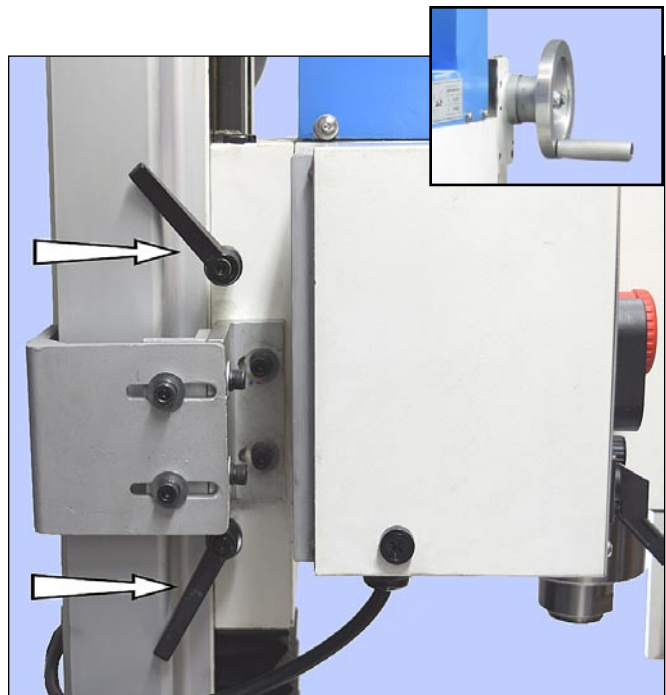

Figure 3-6 Z-axis locks
The Z-axis crank, Figure 3-6 inset, is at the top right of the column. If the mill has a 3-axis DRO the headstock position is displayed at all times. If not, the headstock can be positioned approximately by reference to a 12” scale on the column. For more precise positioning the crank hub has a graduated dial with 0.001” divisions (be aware of backlash in the bevel gears controlling the Z-axis leadscrew, and also in the leadscrew nut).
For milling operations calling for precise, repeatable control of tool depth, tighten knob (4) to engage hub (1) with the internal taper on sleeve (3). Tighten the Z-axis locks, Figure 3-6.